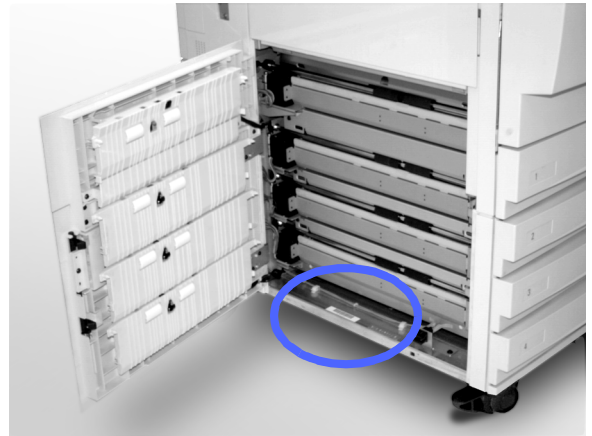

Figure 46: Machine Serial Number location
- 4 Record the Machine Serial Number from the label on the inside lower left cover of the copier/printer, as illustrated in Figure 46.